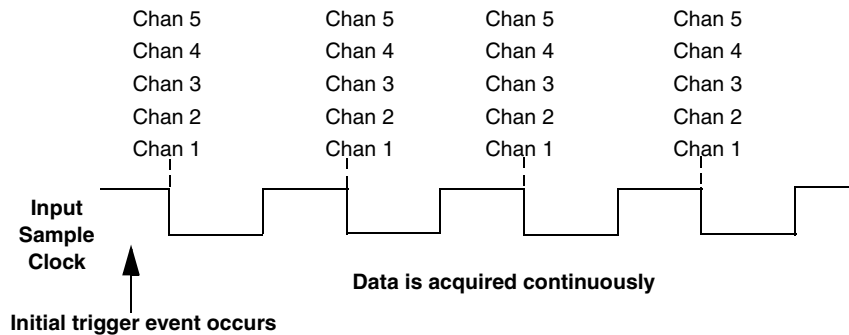

Figure 19: Continuous Wrap Mode
Figure 19 illustrates continuous wrap mode using a channel list with five entries: analog input channel 1, 2, 3, 4, and the tachometer (5). In this example, data is acquired simultaneously on all channels on each clock pulse of the input sample clock. Data is acquired continuously until all the queued buffers have been filled or you stop the operation.